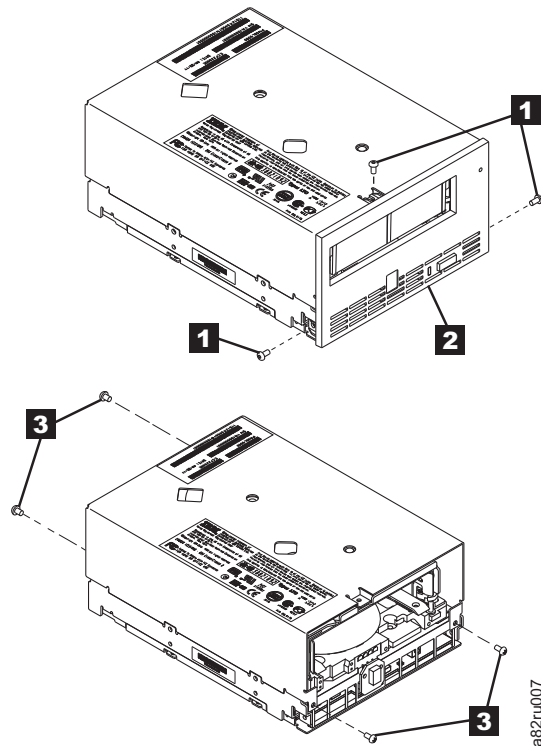

Figure E-5. Removing the bezel and the cover from the internal drive
- a. Using a Phillips screwdriver, remove the three screws and washers (see **1** in Figure E-5) that secure the bezel **2** to the internal drive, then remove the bezel.